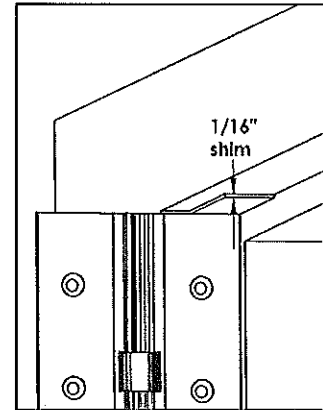

Fig. 1
- With the hinge open, place the hinge frame leaf against the frame rabbet making certain that the alignment rib is flush against the frame face along its entire length. Position the top of the hinge 1/16" (1/8" maximum) below the header. **Note: A 1/16" shim is recommended due to initial settling of the bearings.** (See Fig. 1)